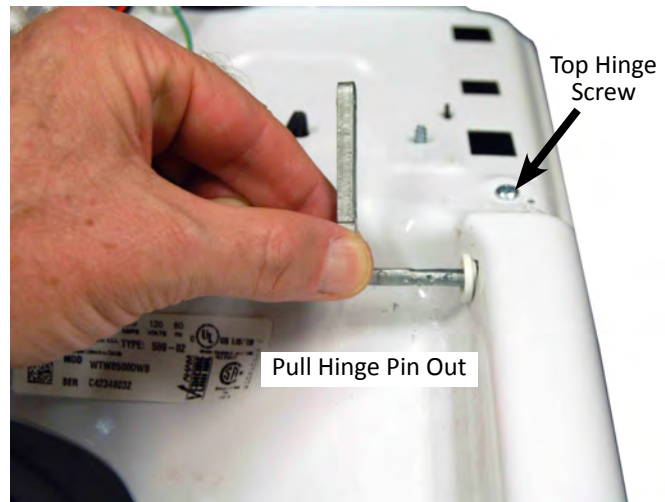

Figure 3
2. Pull the hinge pin out of the hinge you are removing (see Figure 3).
4. Remove the Phillips screw from the hinge you are removing (see Figure 3).